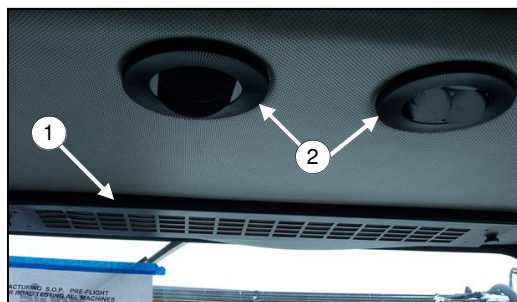

FIG 24-2
**Air Filters**- The cab is equipped with fresh air filters (fig. 24-2, item 1). These filters are for your safety and comfort. Change the filters as soon as a chemical odor enters the cab. See the Service section for information.
**Vents**– The cab has adjustable vents (fig. 24-2, item 2). They may be adjusted by rotating them for desired direction, or individually turned off with the directional fins.